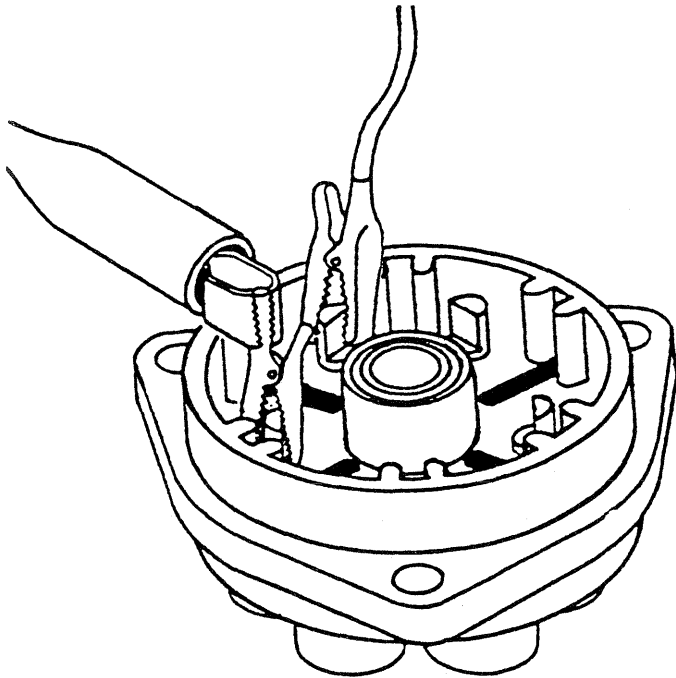
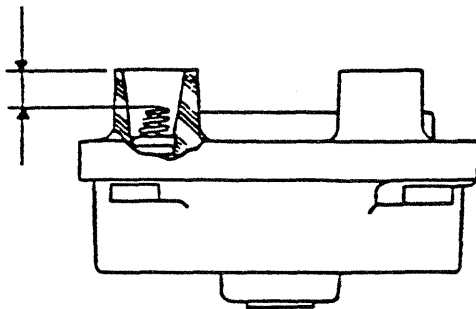

Figure 706. Checking Distributor Block for Carbon Tracking
Figure 707. Contact Spring Height
- B. Insert gear (72) into distributor block (79). Apply light hand pressure to first one side of gear, then the other. If any play can be felt as gear is "rocked" manually, block bushing is worn excessively. Replace block (79).
- C. Examine distributor block (79) for cracks, particularly around high tension terminal towers, mounting holes and nose in center of electrode side.
- (1) Use a medium alligator clip to connect tester ground lead to an electrode of the block.
- (2) Attach high voltage lead of tester to electrode adjacent to grounded one. See Figure 706.
- (3) Tester high voltage will follow a carbon track. Complete test of all interelectrode spaces. Also test between center bushing and all electrodes. Temporarily assemble block (79) into housing (48) and test for carbon tracking between electrodes and housing by connecting to housing and each electrode. Reject any carbon tracked blocks (79).
- F. Inspect contact springs (80), on tower side of block (79). If any look fuzzy or white, or show evidence of burning, rust, or corrosion, remove with needle nose pliers and discard. Check springs for proper height by measuring down from top of tower. If measurement exceeds the .422 inch dimension shown in Figure 707, spring may be deformed or improperly installed. Using a scribe, or similar pointed instrument, wiggle top of spring in a circular motion to be sure only bottom turn of spring is captivated in groove of block insert. Recheck spring height and if measurement still exceeds .422 inch, remove and replace spring.